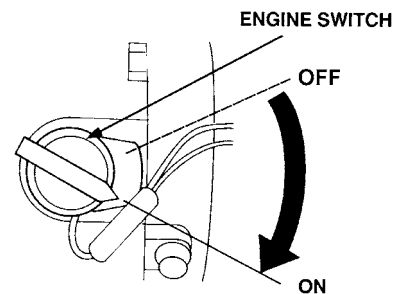

Figure 12. Engine On/Off Switch
4. Turn the engine switch (Figure 12) to the ON position.